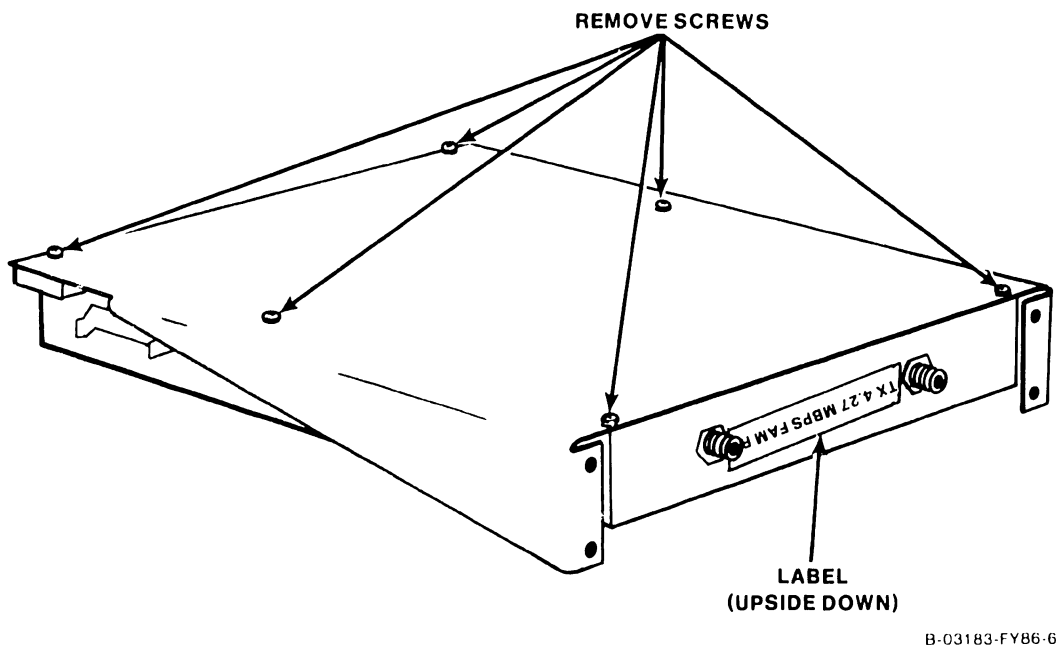

Figure C-12. Modem Mounting Plate Removal
5. Turn the modem and mounting plate over so that the 4.27 MHz label is upside-down (figure C-12).